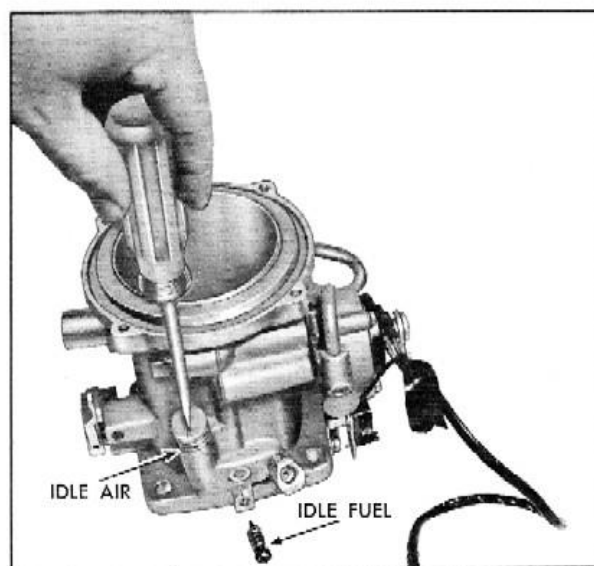

Fig. 30 Installing Idle Fuel and Idle Air Adjusting Screws
6. Install idle air and idle fuel adjusting screws and springs, Fig. 30, and back-off two turns as an initial adjustment. This completes assembly of air meter.